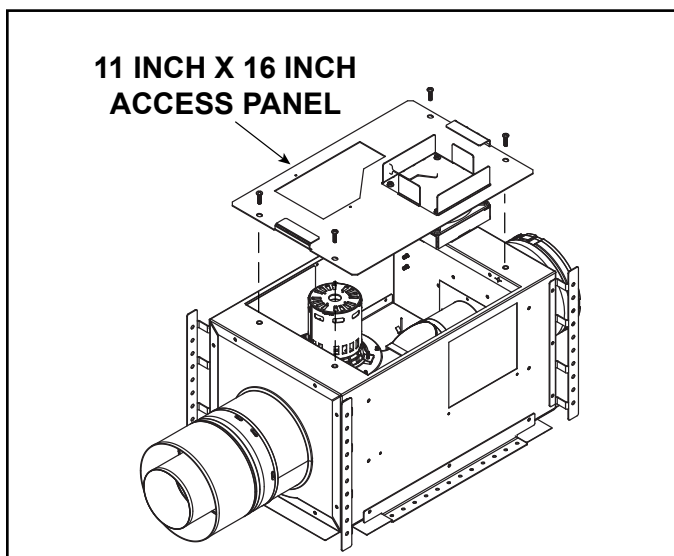

Figure 5.5 Maintenance Access
3. Motor: The fan motor bearings are sealed and no further lubrication is necessary. To access the motor, vacuum switch or pressure sense tube, refer to Figure 5.5.